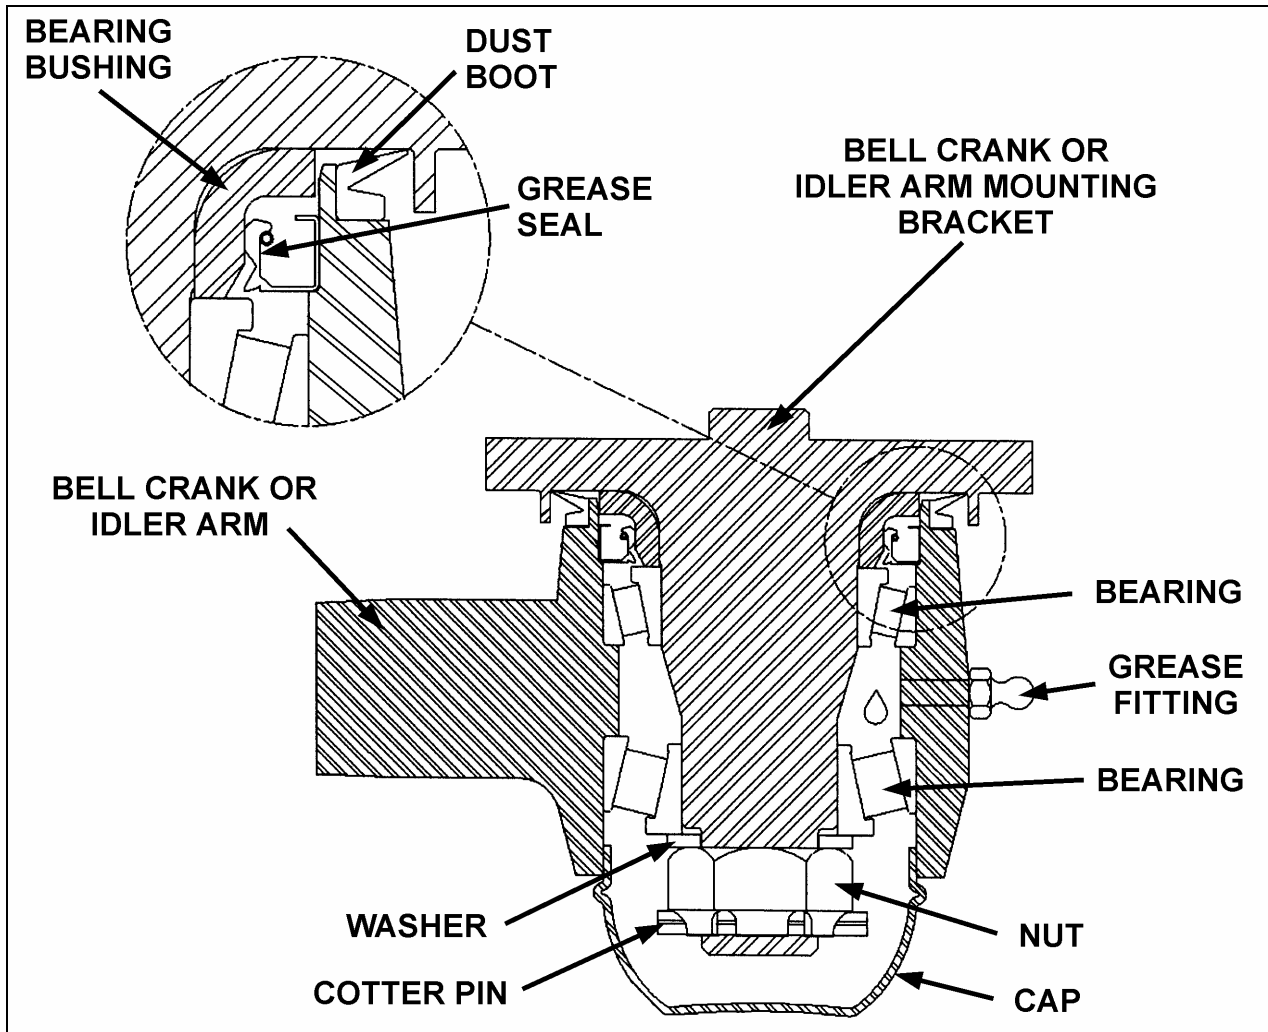

FIGURE 10: BELL CRANK AND IDLER ARM 16109
2. Remove the cap (Fig. 10).
3. Remove the cotter pin, nut and tongue washer. Remove bearings, grease seal, bearing bushing and the bell crank or idler arm from its mounting bracket stud (Fig. 10).
2. Install bearing and grease seal in bell crank or idler arm eye (Fig. 10).
3. Install bell crank or idler arm on its mounting bracket stud (Fig. 10).
Bend cotter pin around the nut (Fig. 10). Do not bend the cotter pin in the direction of the cap, because it may interfere with the cap.